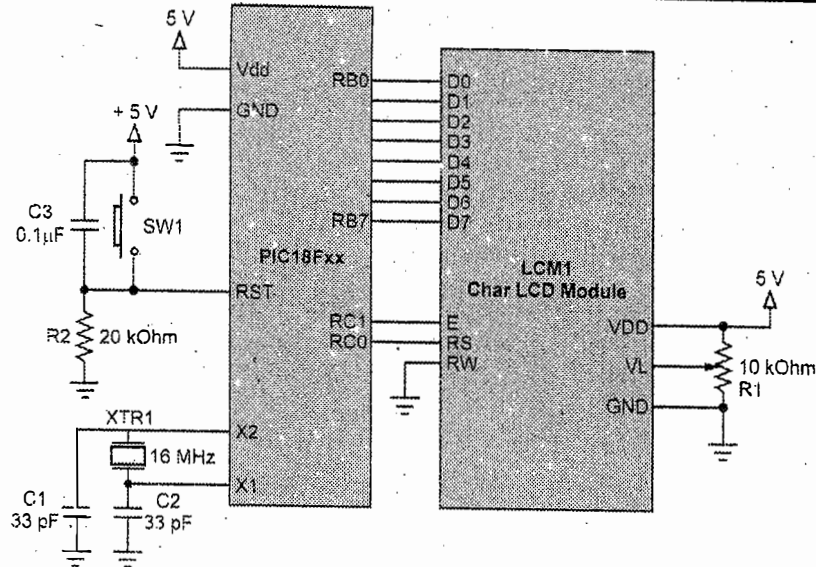

Fig. Q.7.1 LCD interfacing 8 bit mode
**Ans. : LCD Interfacing 8 bit mode :** The interfacing diagram of 16 × 2 Character LCD module with PIC18Fxx microcontroller is shown in Fig. Q.7.1.